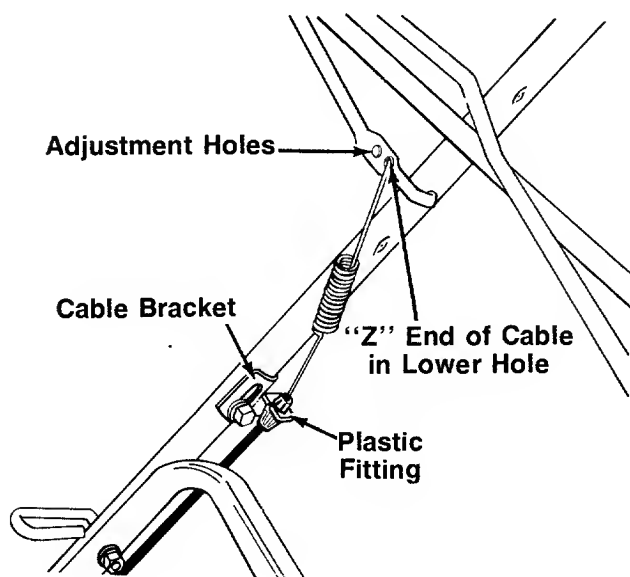

FIGURE 5.
1. The drive clutch cable is attached to the drive cover, and has a spring on one end. Hook the spring on the end of the cable into the lower hole on the drive clutch handle. See figure 5.
3. With the drive clutch control handle released, pull down on the cable and cable bracket until there is a minimum of 1/8" clearance between the drive pinions and the drive wheels. See figures 5 and 6.